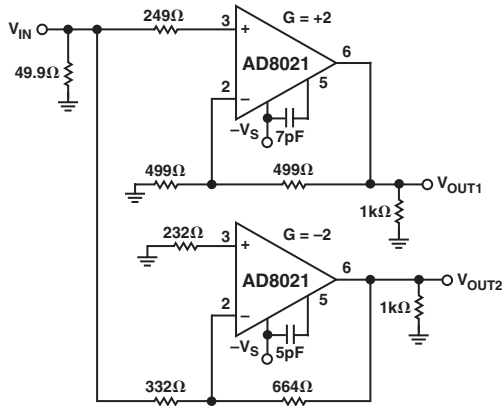
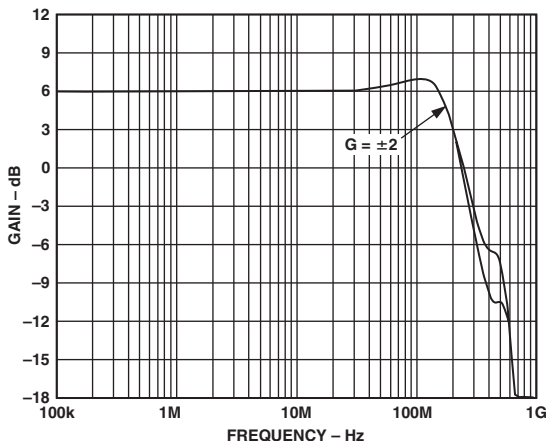

Figure 10. Differential Amplifier
Figure 12. AC Response of Two Dissimilarly Compensated AD8021 Op Amps (Figure 11) Configured for Gains of +2 and -2. Note the Close Gain Match.
3. Match bandwidth in gain blocks with different noise gains, such as when designing differential amplifiers (as shown in Figure 10).
Figure 10 illustrates an inverter-follower driver circuit operating at a gain of 2, using individually compensated AD8021s. The values of feedback and load resistors were selected to provide a total load of less than 1 k $\Omega$ , and the equivalent resistances seen at each op amp's inputs were matched to minimize offset voltage and drift. Figure 12 is a plot of the resulting ac responses of driver halves.